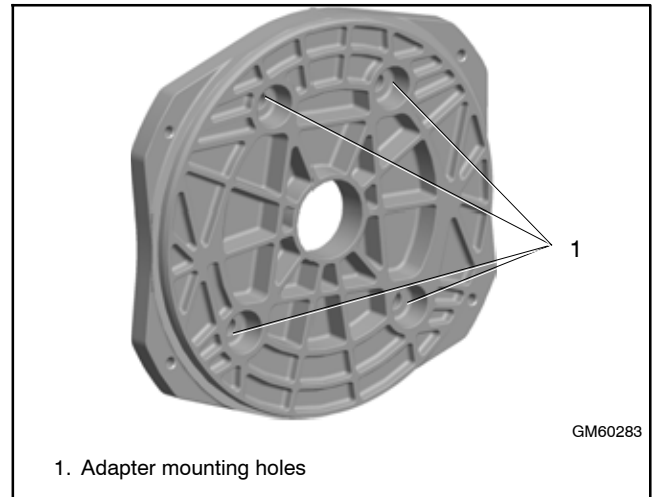

Figure 6-18 Generator Adapter (14RES/RESL)
31. 14RES/RESL only: Remove the four generator adapter mounting bolts to remove the generator adapter, if necessary. See Figure 6-18.
- a. Attach the generator adapter to the engine using four 7/16-14 x 1.0 in. hex cap bolts and washers. See Figure 6-18.